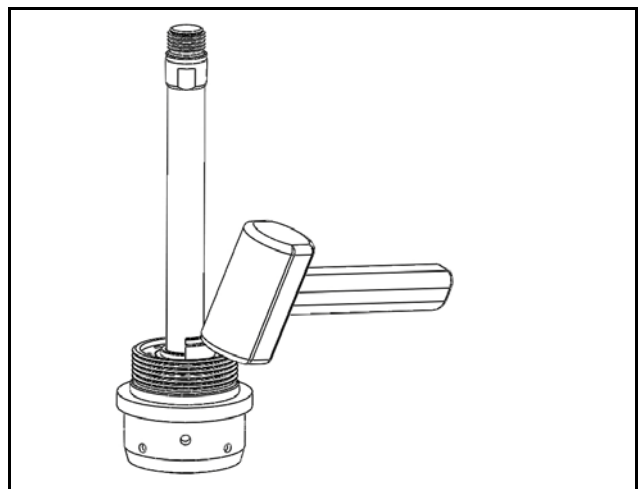

Figure 13 – Slide Bearing Reinstallation
2. Stand the Impactor and Retaining Nut upright and slide the halves of the Slide Bearings back into the Nut. Gently tap the Slide Bearings with the dead-blow hammer until they are seated (see Figure 13).
3. Reinstall the Slide Bearing Retainer onto the Impactor Assembly Retaining Nut. Use the medium strength thread locking compound on the four (4) screws (see